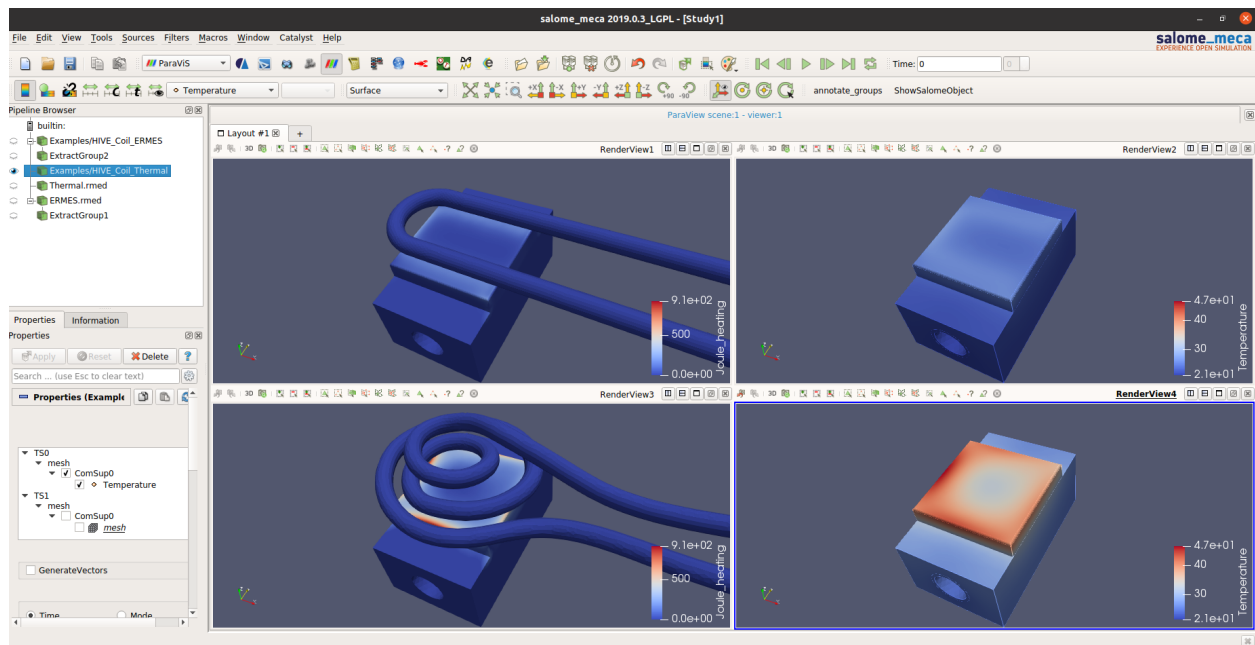

Fig. 6.14: Visualisation of simulation results from **ERMES** and **Code\_Aster** for both coil types.
**Note:** You can open the results from the previous analysis alongside this by going to `File/Open ParaView File` and navigating to the directory 'Test\_Coil' as shown in Fig. 6.14.